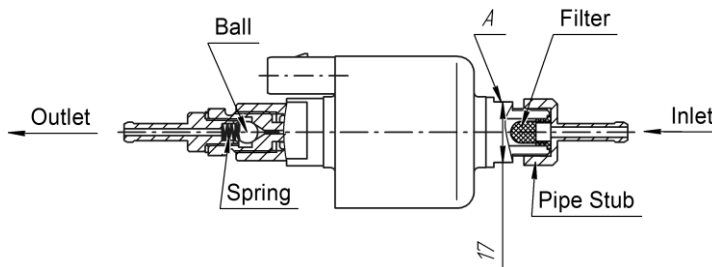

Figure 9.1 – Fuel pump
- remove the fuel supply pump from the vehicle; using a wrench (F/A 17), fix the pump in place, unscrew the pipe stub and remove the filter (figure 9.1). Do not fix the pump in place using surfaces other than Surface A when removing and installing the pipe stub,